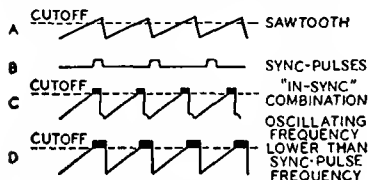

Fig. 102—Sawtooth and sync pulses in synchroguide circuit.
$V_1$ . The waveforms shown in Fig. 102 illustrate the sawtooth and sync pulses (A and B) and their proper "in-sync" combination (C).
For example, waveform D in Fig. 102 illustrates a condition in which the sawtooth voltage is advanced in phase with respect to the sync pulses. The widening of the pulse which occurs at the corner of the sawtooth waveform allows the control tube to conduct more current and, consequently, allows the capacitor  $C_1$  to charge to a higher voltage. This increased reference voltage also appears in the grid circuit of  $V_2$  and makes the grid more positive. The increased grid voltage then speeds up the frequency of oscillations until proper synchronization results.